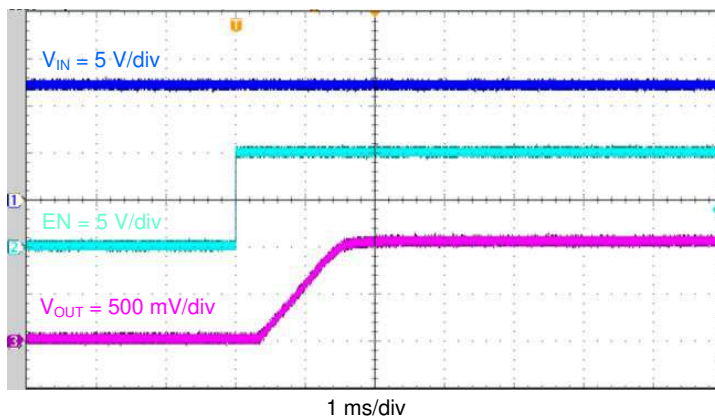

Figure 4-10. TPS565208 Start-Up Relative to EN
The TPS565208EVM-858 start-up waveform relative to enable (EN) is shown in Figure 4-10. Load = 1 Ω resistive.